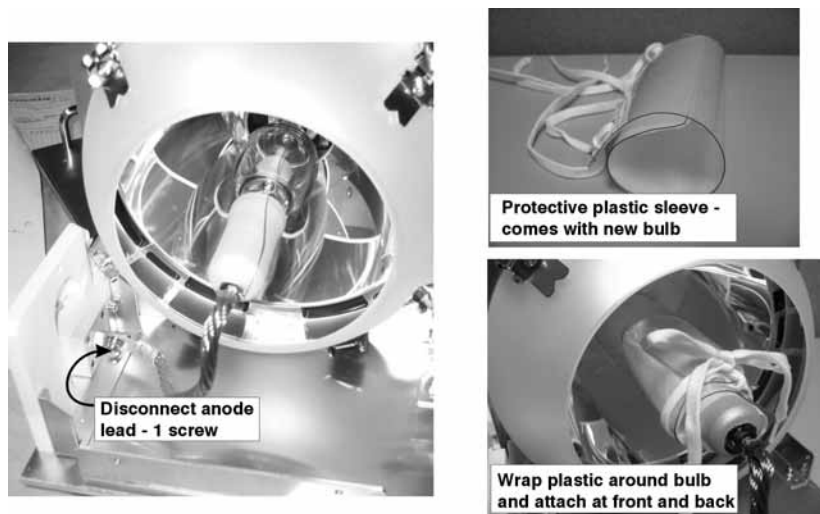

Figure 10 - Disconnect Anode Lead
- From the front of the lamp module, remove the single screw securing the anode lead (Figure 10 - Disconnect Anode Lead10).